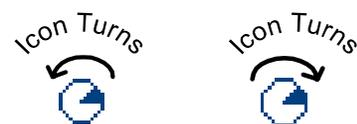

Figure 2-8. Animation of the Motion Icon
- ← MOTION (see Figure 2-8)
When the drive is running (speed feedback is not zero), the **animated motion** icon appears in this position. It rotates (see Figure 2-8) in the direction selected with the direction arrow key (described in Table 2-1).